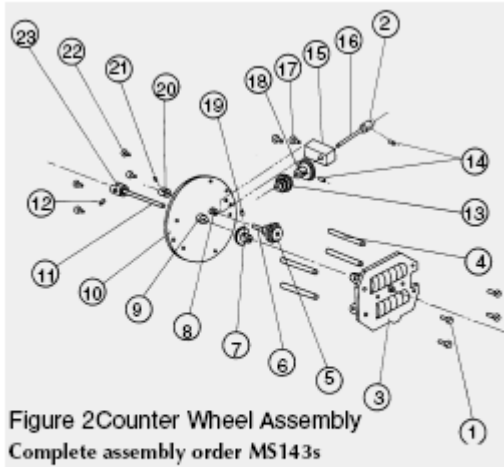

Figure 2 Counter Wheel Assembly
- 3] Carefully remove the plastic pointer (Item 5) so as not to damage the stem which is a push fit onto the needle shaft (Item 11, refer Figure 2).
- 2] Undo grub screw (Item 14) to enable the shaft coupling (Item 12) to be withdrawn from encoder shaft (Refer Item 16, Figure 2).
Refer to Figure 2 unless otherwise stated